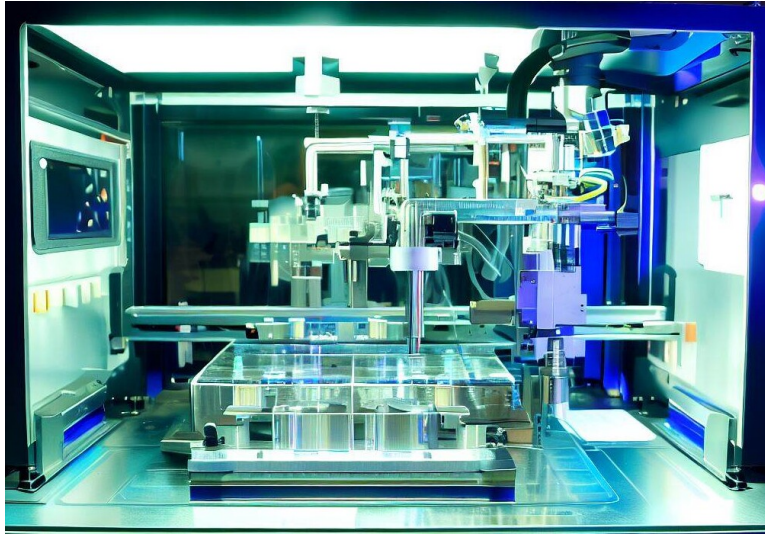

Figure 6: Photolithography equipment for chip making
- **Photolithography equipment:** This equipment is key to chip making. It uses light to transfer (print or etch) the circuit patterns for the chip design onto the semiconductor material (Figure 6). ASML, a global industry leader based in the Netherlands, offers one of the best photolithography equipment for chip making that uses EUV (Extreme UltraViolet), an incredibly short wavelength of light to print small, complex designs on microchips.